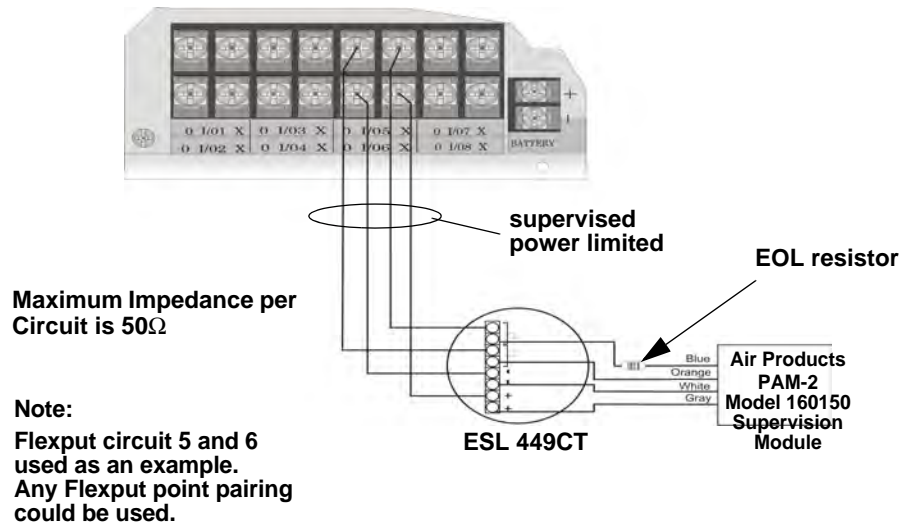
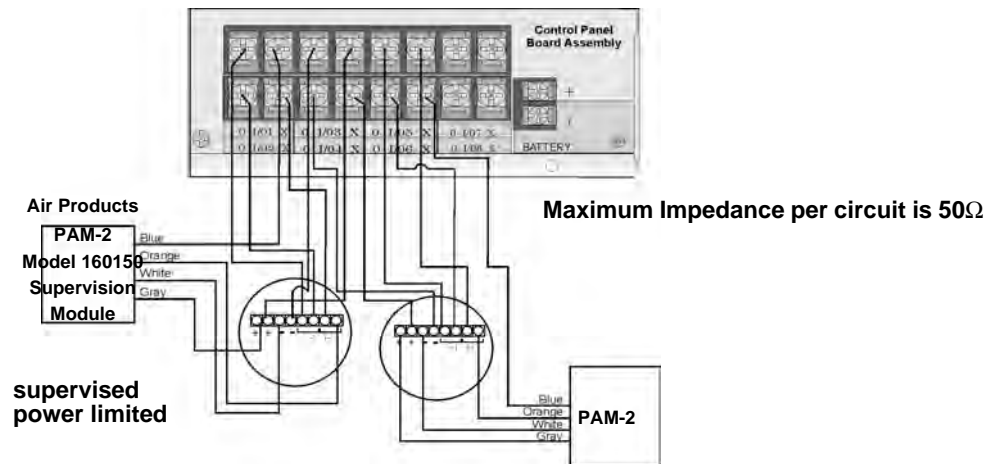

Figure 4.43 Class B 4-Wire Smoke Detector Connections
Figure 4.44 Class A 4-Wire Smoke Detector Connections
Any compatible UL listed four-wire smoke detector can be used with the control panel (see Section A for list of compatible smoke detectors). Figure 4.43 and Figure 4.44 illustrate how to connect a UL listed four-wire detector to the control panel.
Figure 4.43 illustrates how to install a 4-wire Class B smoke detector.
2. Each Class B loop input is paired with a unique power source as shown in Figure 4.43.
NOTE: In programming any point that uses multiple Flexput circuits, the lowest Flexput circuit number is used to refer to the circuit pair. For example, Figure 4.43 uses both Flexput circuit 5 and 6, so in programming it would be referred to as point 5
Figure 4.44 illustrates how to install 4-wire Class A detectors. Conventions used for wiring 4-wire Class A loops:
- Smoke power is supplied to each Class A loop as shown in Figure 4.44.
NOTE: In programming any point that uses multiple Flexput circuits are always referred to as the lowest Flexput circuit number used. For example, Figure 4.44 uses Flexput circuits 1, 2, 3 together and 4, 5, 6 together. In programming (1, 2, 3) would be referred to as point 1, and (4, 5, 6) would be referred to as point 4.